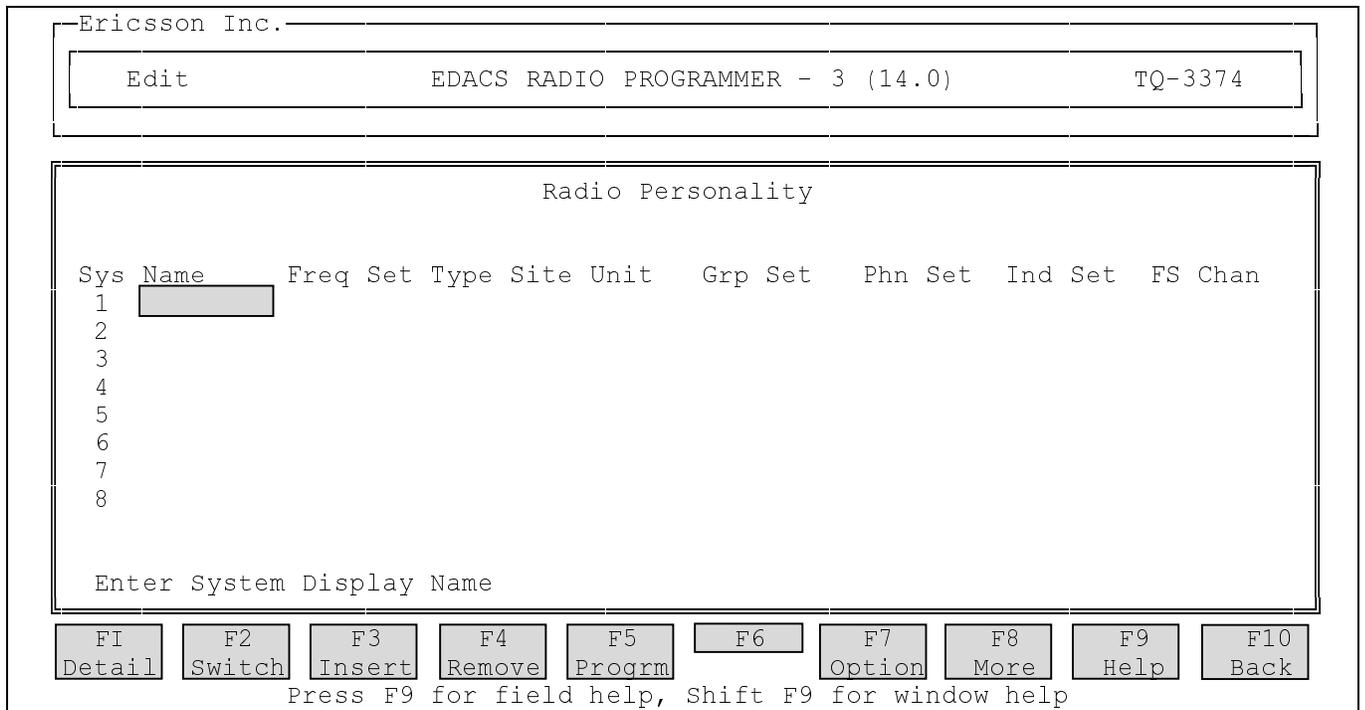

Figure 4 - Radio Personality Screen
- Press the **F1** (Yes) function key to go to the **Radio Personality** screen (see Figure 4).